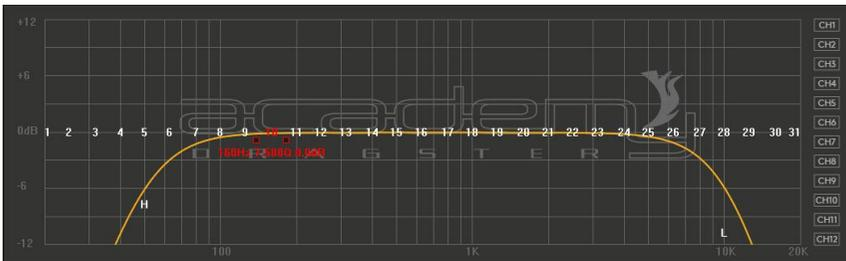

Figure 3.3.8
1. the output channel EQ editing method, all 31 equalizer will work for the next parametric equalizer. When the parametric equalizer curve, if available in the box below the corresponding input parameter values can be (frequency, Q value, and gain) adjusted in real time will also be revealed at the top (as shown in Figure 3.3.8 parametric equalizer case ).